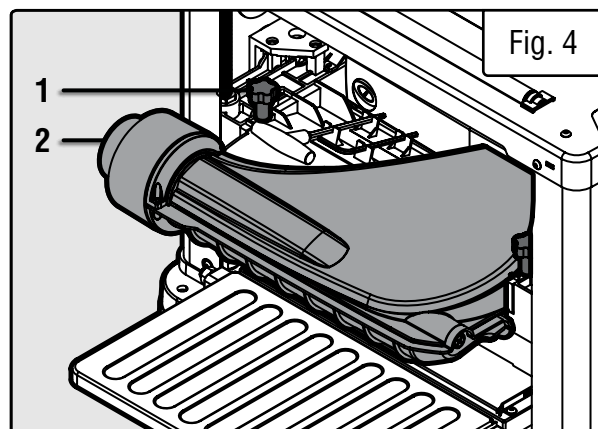

Fig. 4
2. Remove the knobs from the top of the rollercase (Fig. 4 - 1).
3. Set the dust chute (Fig. 4 - 2) on the rollercase as shown in Fig. 4. Secure it using the knobs removed in step 2.